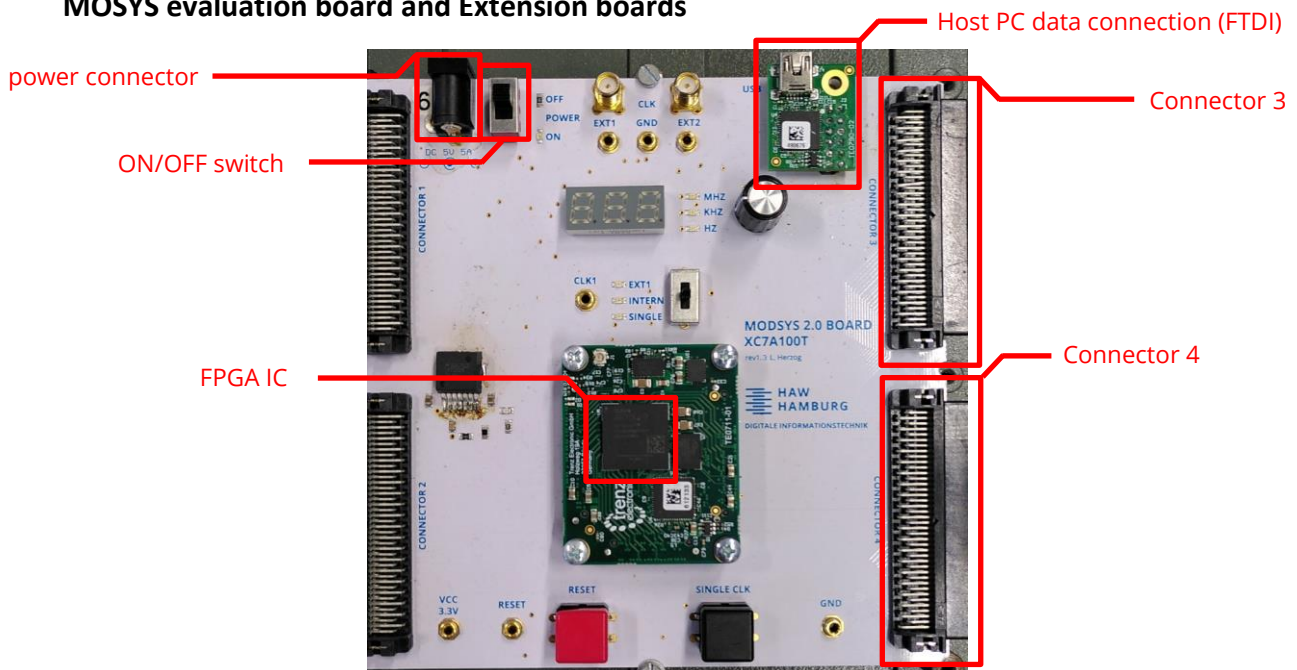

Fig. 1: MODSYS 2.0 Evaluation Board
In this lab exercise a simple arithmetic unit for addition and subtraction has to be implemented in VHDL and mapped onto an FPGA. To this end, a full adder cell (FA) has to be described in VHDL and scaled up to 8 bit. Moreover, the status flags for overflows (signed (V) and unsigned (C)), zero (Z) and negative (N) values of the calculation have to be implemented. The resulting VHDL description has to be embedded into the Vivado Design Tool and validated by meaningful test stimuli. Next, logical and physical synthesis has to be carried out and analyzed in terms of complexity and timing. The resulting bitstream is mapped onto an Artix-7 FPGA (XC7A100T) and tested, using the HAW MODSYS evaluation board with IOMOD extension boards (see Fig. 1).